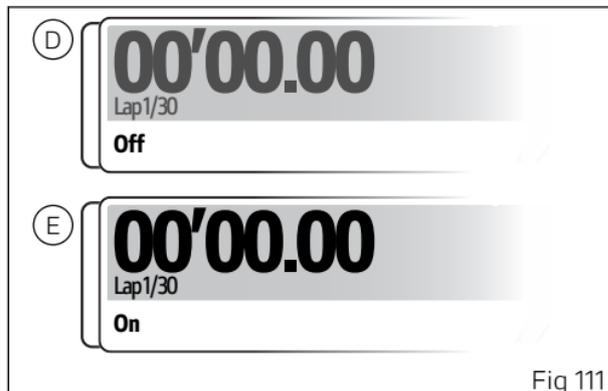

Fig 111
- If the function is disabled, Off is shown with the stopwatch and indication of the available laps (D, Fig 111); press ENTER button (3) to enable the function.
- If the function is enabled, On is shown with the stopwatch and indication of the available laps (E, Fig 111); press ENTER button (3) to disable the function.